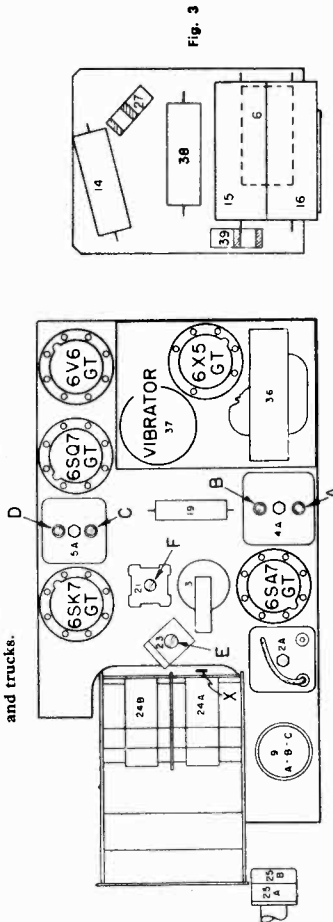

Fig. 1
- At 455 KC:- Connect signal generator lead to "X" (see fig.1) which is the grid lead of the 6SA7GT tube through a .1 mfd. condenser. Adjust trimmers (a) (b) (c) and (d) for maximum output.